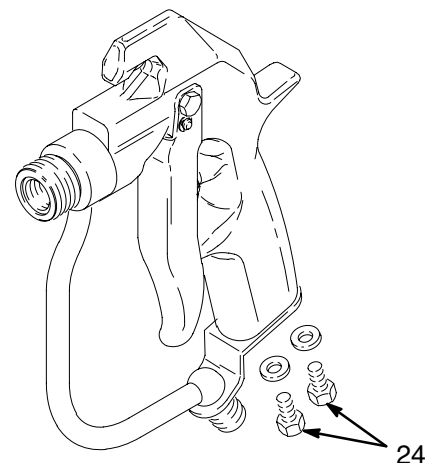

Fig. 9 04733
5. Remove the screws (24). See Fig. 9.